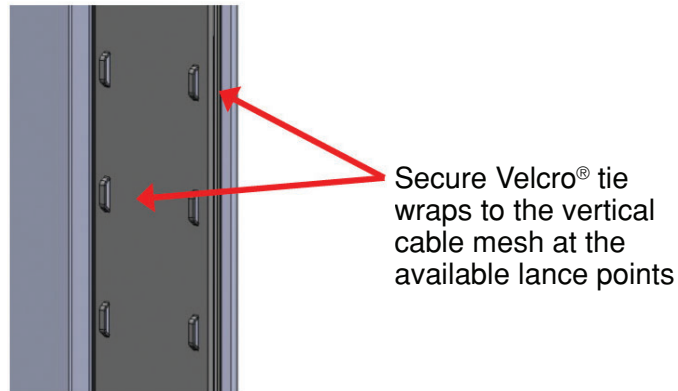

Figure 23
6.1.2 Attach the trunk cable to the vertical cable mesh using velcro tie wraps (Figure 23).